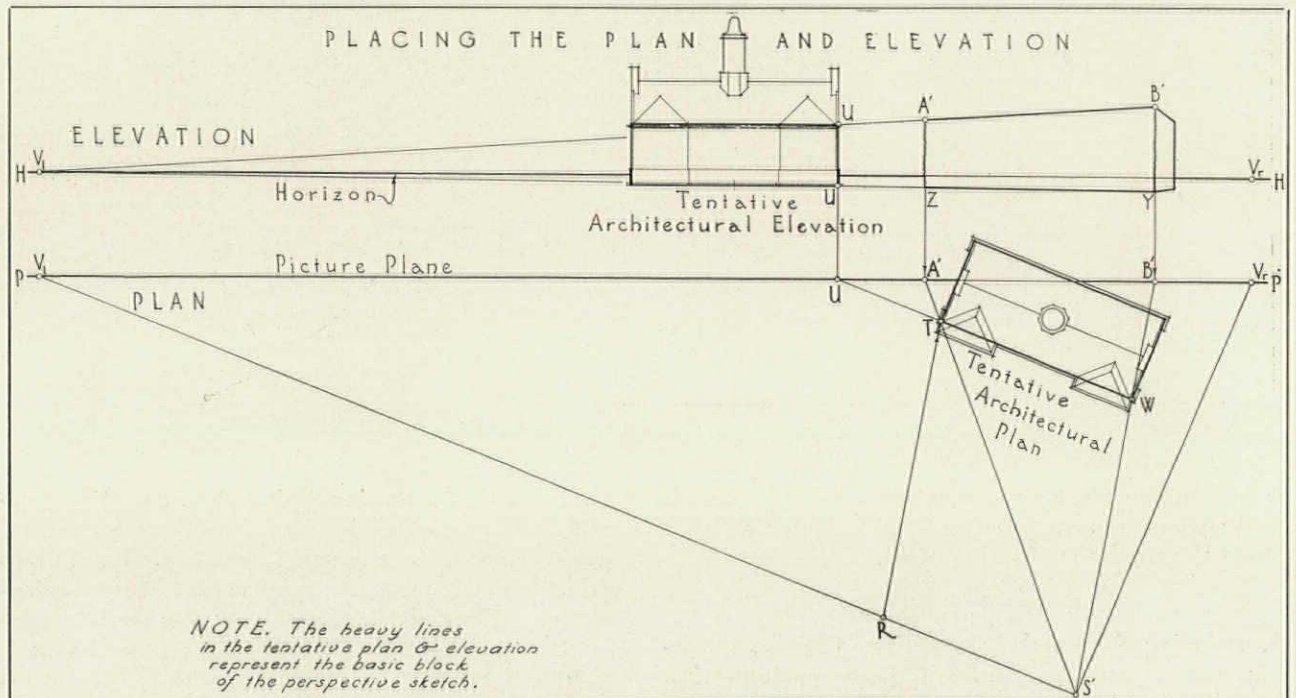

Figure 6—Placing the Plan and Elevation
He now has a block sketch which accurately represents the general bulk of his building as seen from some reasonable point of view. He is ready to place his architectural plan and elevation in position for developing the sketch into a finished perspective (Fig. 6).
VI. *Placing the Plan and Elevation* (Fig. 6). You are now ready to develop the detailed perspective. The first step in this development is placing the architectural plan and elevation in the proper relation to your perspective layout.
7. The right-hand vanishing-point V_1 is of course found by drawing through S a normal to SV_L and the plan and elevation are placed as shown under the first method (Fig. 6).